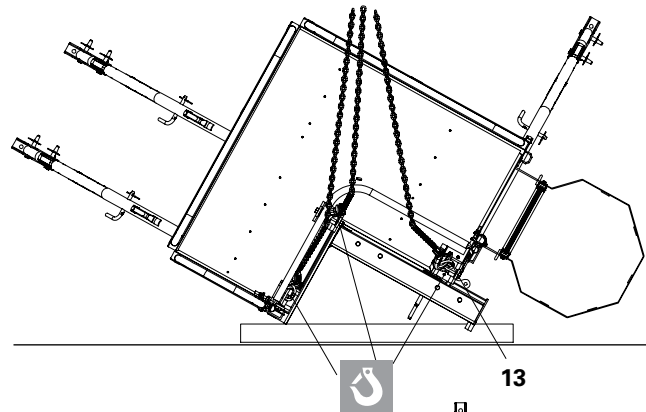

Fig. A4.01
1. Attach 3-sling lifting gear to the Crane Eyes (13), set formwork upright and then transport to the place of use. (Fig. A4.01)